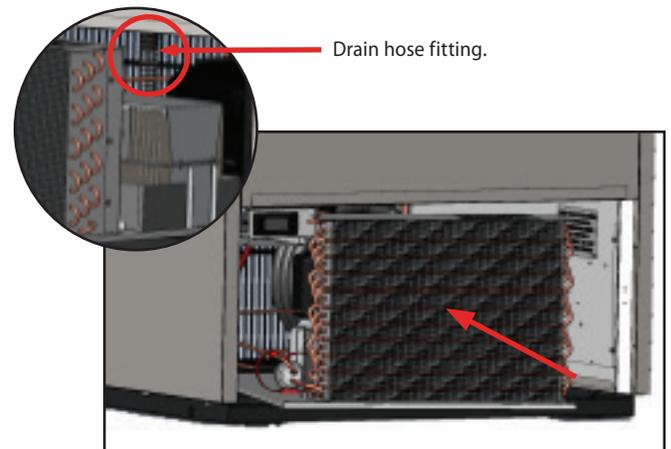

Fig. 6. Rotate the condensing unit to the left.
7. Rotate the front of the condensing unit to the left to allow the compressor to clear the condensate drain hose fitting. See fig.6.